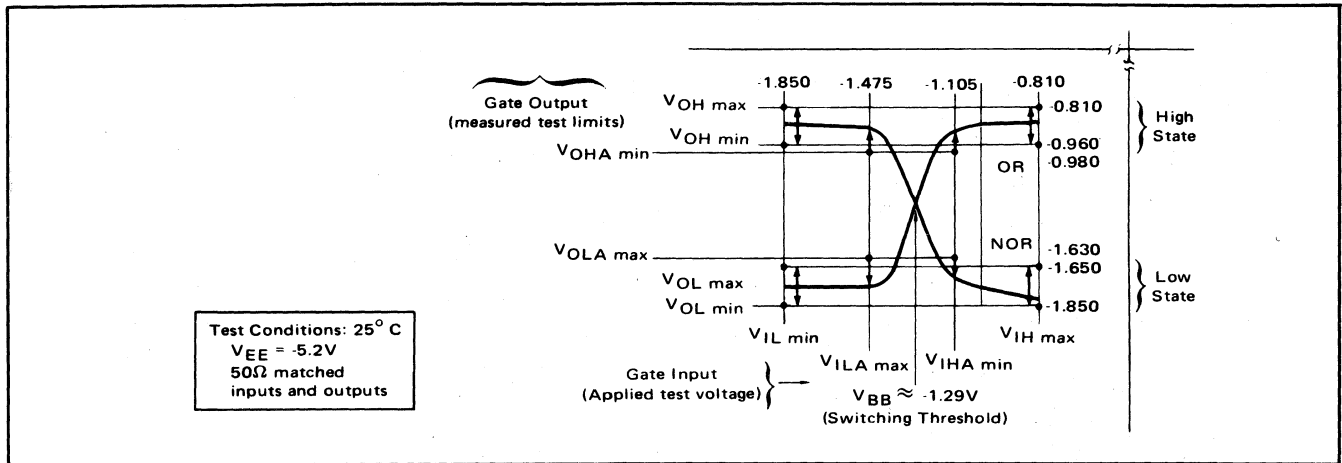

FIGURE 2 – MECL 10,000 transfer curve and specification points.
To show the transfer characteristics of a MECL gate, a curve may be obtained showing output levels versus input levels for both the OR and NOR outputs. Referring to Figure 2, the transfer curve for a MECL 10,000 gate is
The specified limits for output voltages are shown in Figure 2. The high output level will fall between $V_{OHmax} = -0.810$ V and $V_{OHmin} = -0.960$ V, and the low output level will be between $V_{OLmax} = -1.650$ V and $V_{OLmin} = -1.850$ V. These are the normal operating levels for MECL 10,000 (25°C) and output voltages remain within the preceding limits as long as the inputs stay within normal logic levels.
3. **High Output Voltage** – The minimum and maximum V_{OH} limits are given at 25°C and the commercial range temperature extremes, -30°C and 85°C. MECL 10,000 levels track with temperature, therefore, different limits are listed for the various temperatures. The V_{OH} level at 25°C falls in the band of voltage between V_{OHmax} and V_{OHmin} as shown in the transfer curve (Figure 2).
V_{OL} falls in the lower band of voltage between V_{OLmax} and V_{OLmin} at 25°C as shown in Figure 2.